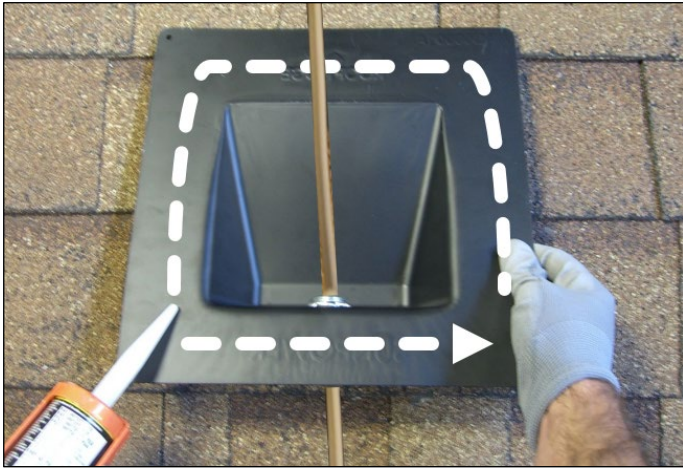

Fig. B11
16. Apply a single 1/2" continuous bead of sealant to the *underside* of the flashing, approximately 1" (2.5 cm) from its perimeter (Fig. B11). Use only 100% silicone roof sealant, such as Henry 884 Tropi-Cool® or equivalent. Ensure that the sealant has not exceeded its shelf life and has not exceeded the recommended maximum time-to-use period after opening, as defined in the manufacturer guidance.